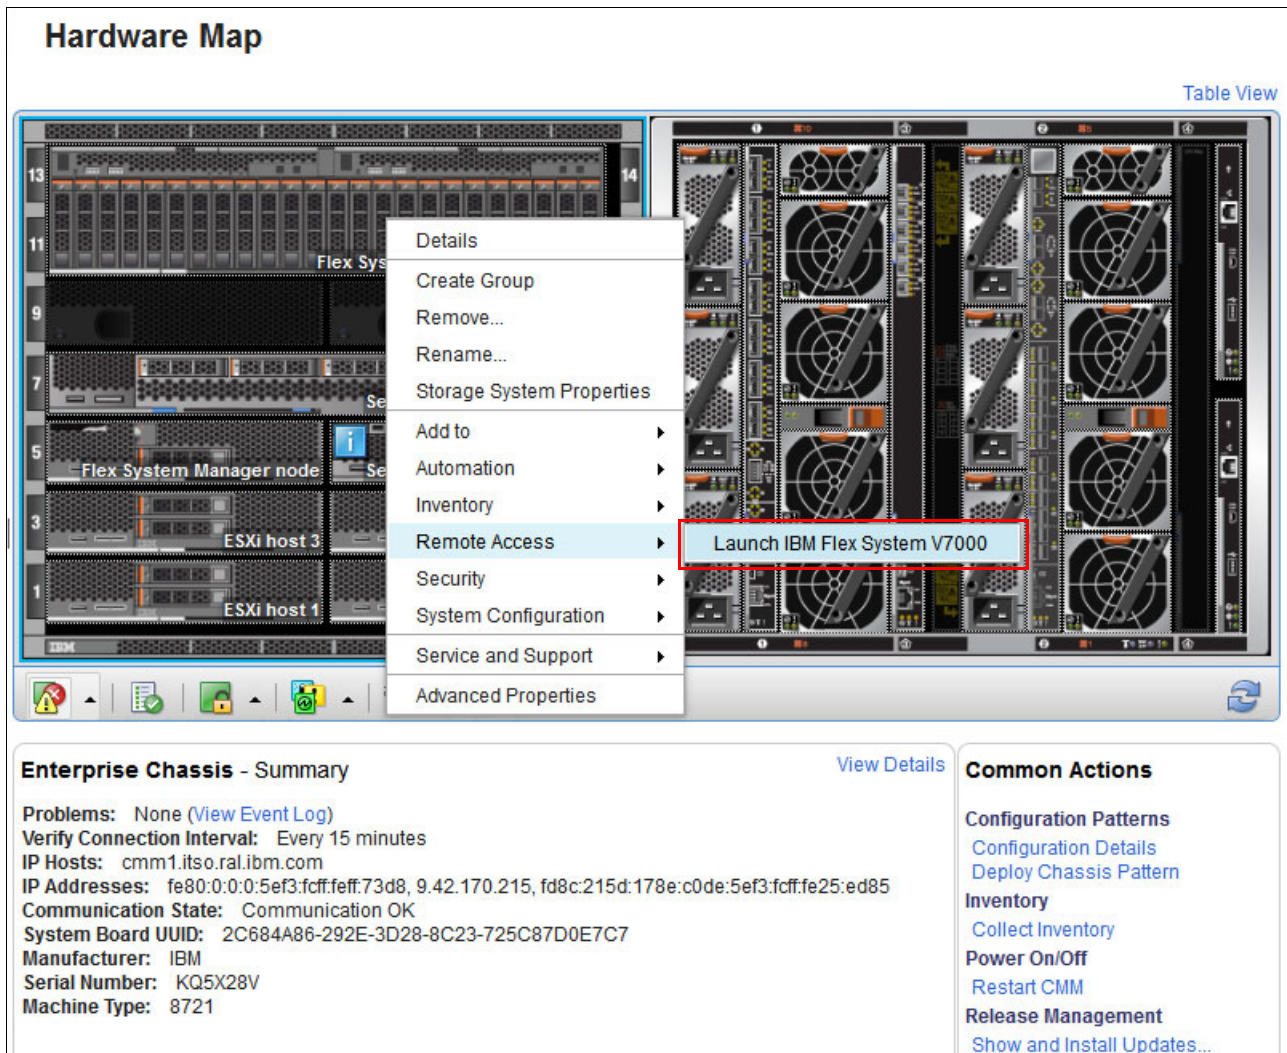

Figure 6-123 Launch Storage Manager (V7000)
3. Right-click the V7000 Storage Node in the chassis map, then select **Remote Access** and click **Launch IBM Flex System V7000** as shown in Figure 6-123 to start the Initial Setup wizard.